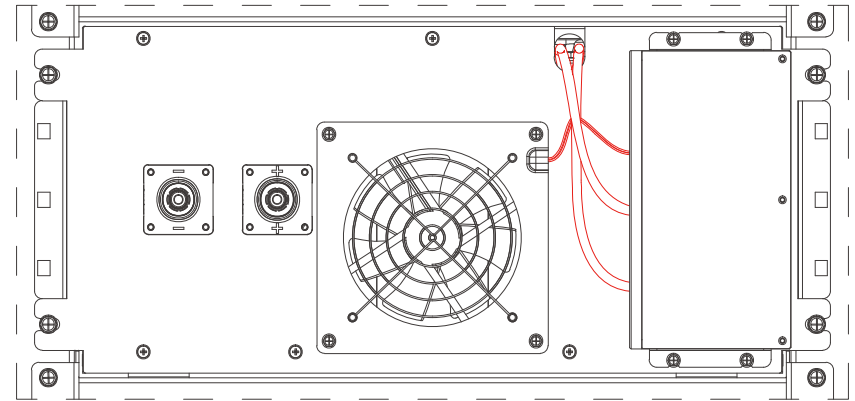

Figure 2.5
(1) Insert the voltage sampling, temperature sampling, and fan cables of each battery box into the BMU port (Figure 2.5).